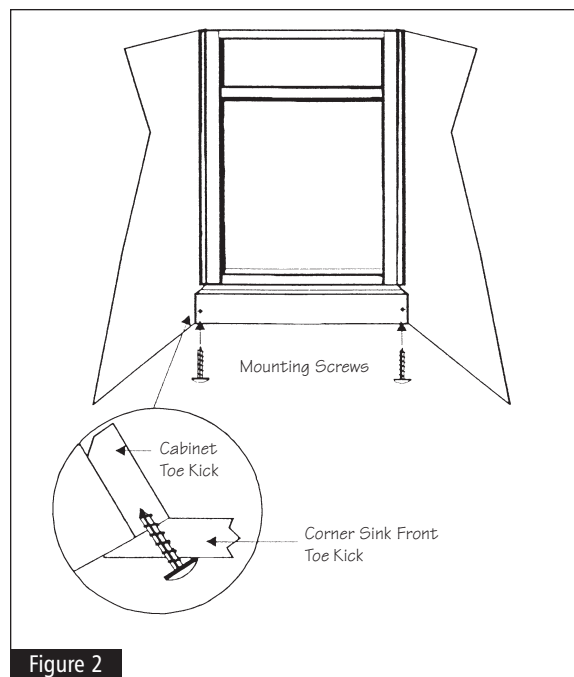

Figure 2
- 3** Attach the Corner Sink Front toe kick to the base cabinet toe kicks with screws (#6 x 1" pan head screws or pin nails, not provided) in two places on each side of toe kick. See Figure 2.